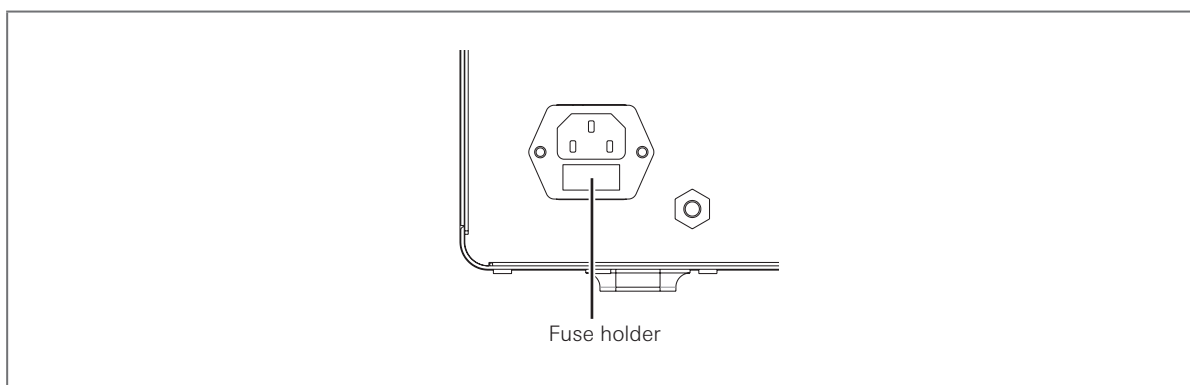

Figure 4.11
2. Pull out the fuse holder straight and replace the fuses (see Figure 4.11).